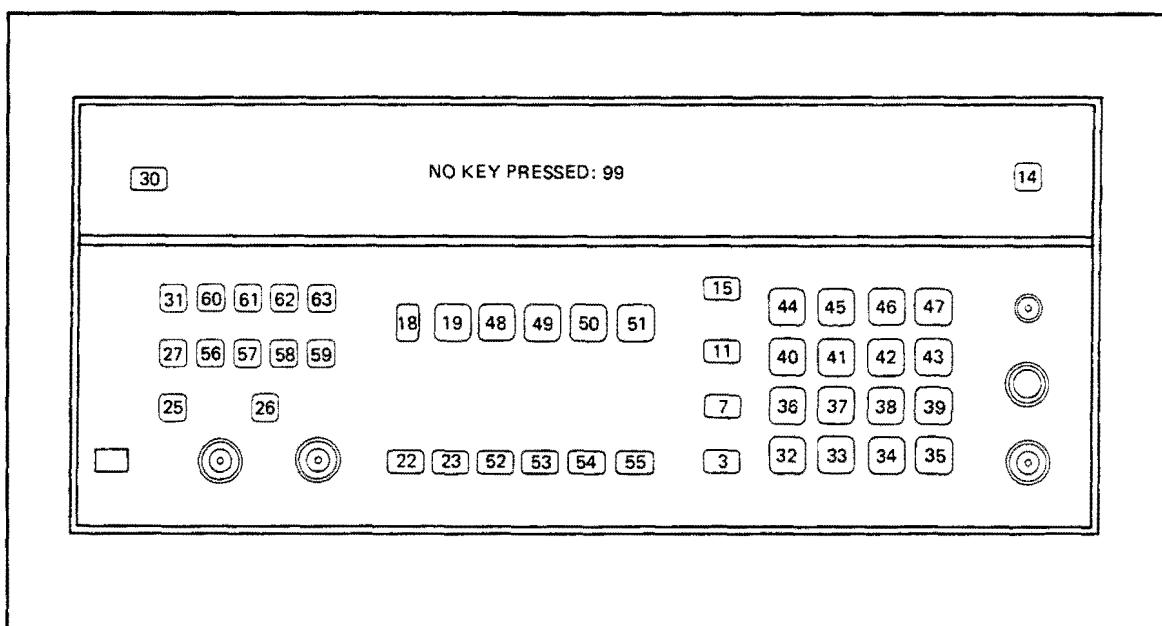

Figure 8D-8. Key Codes for Key Scan
⑥ Keyboard Key Check
1. Key in 60.0 SPCL. As the Special Function code is entered, 60.0 should appear in the display. This indicates that the Controller responds to keyboard interrupts. If faulty, see **⑦** and **⑧**. While the SPCL key is down, 35 should appear in the display. After releasing the SPCL key, 99 should appear in the display. If another number appears, continue on.
3. Press the keys one at a time and compare the display with the key codes shown in Figure 8D-8. If a code other than 99 appears in the display with no key pressed, the key corresponding to the displayed key code is probably stuck down; see Service Sheet 25. If a wrong code appears for one or more keys, check the corresponding key and decoder; see Service Sheet 25.